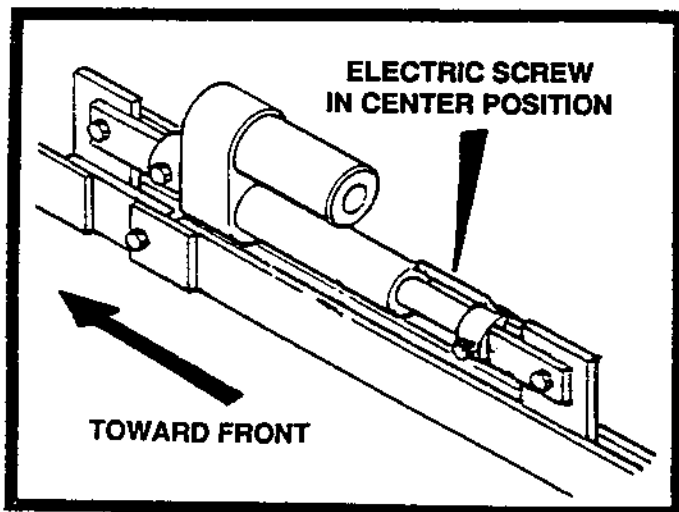

FIGURE 10
1. Before paving, center the electric flight screw on both sides of the paver. See figure 10.